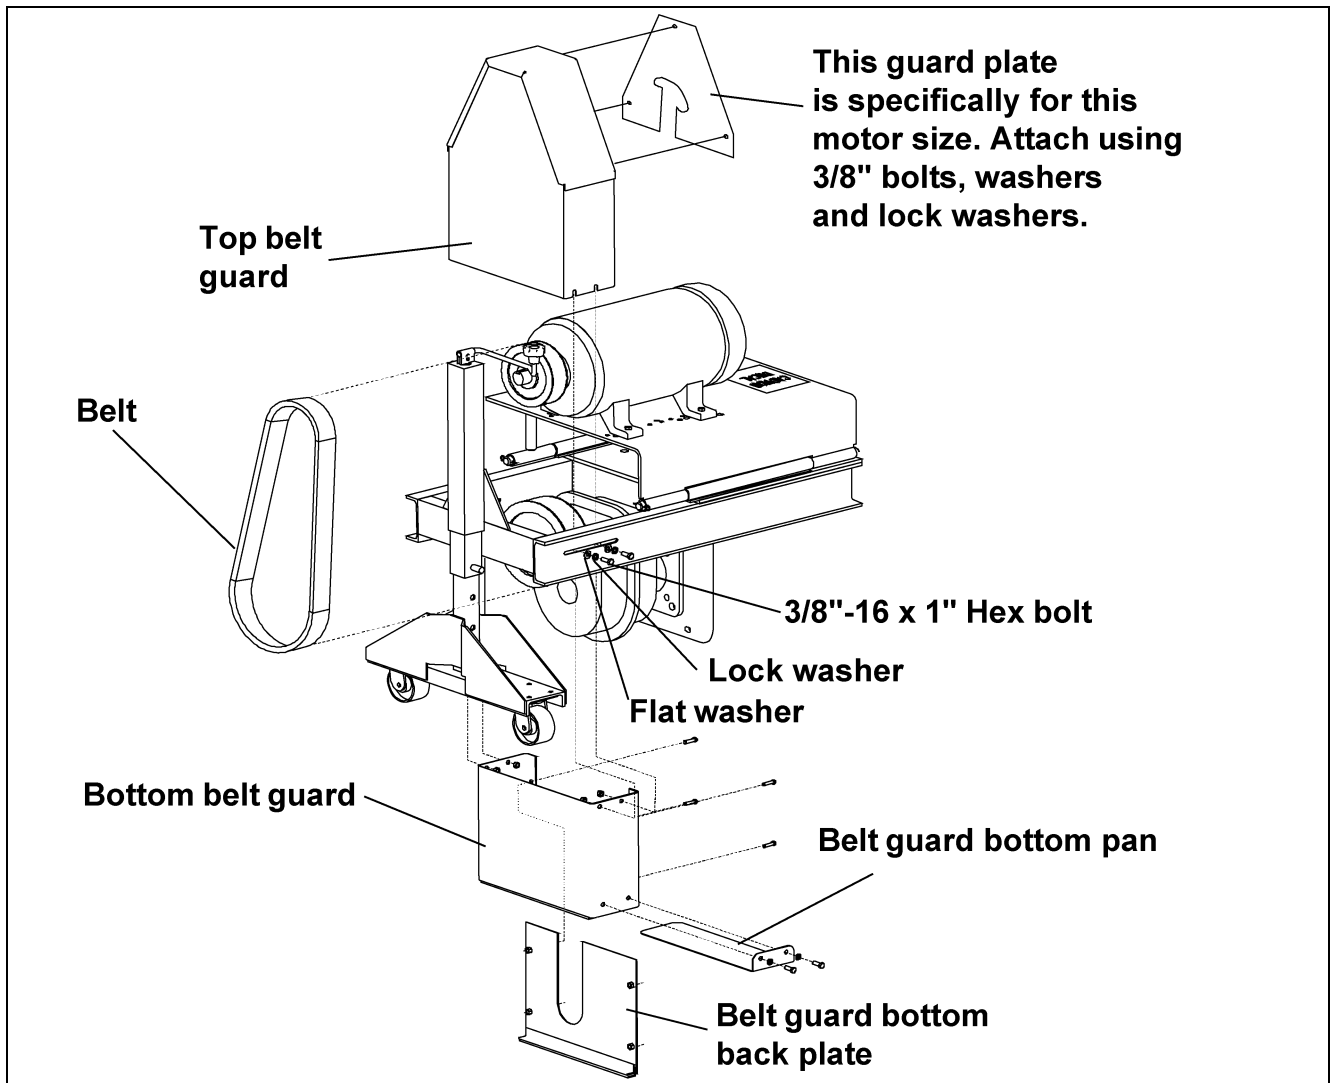

Figure 5Z
F. Carefully install the belts onto the large and small sheaves. (See Figure 5Z on Page 42.)
G. Loosely bolt the bottom belt guard to the motor mount using four (4) 3/8"-16 x 1" hex bolts, flat washers and lock washers. (See Figure 5Z.)
H. Slide the top belt guard over the bottom belt guard as shown in Figure 5Z and tighten bolts.